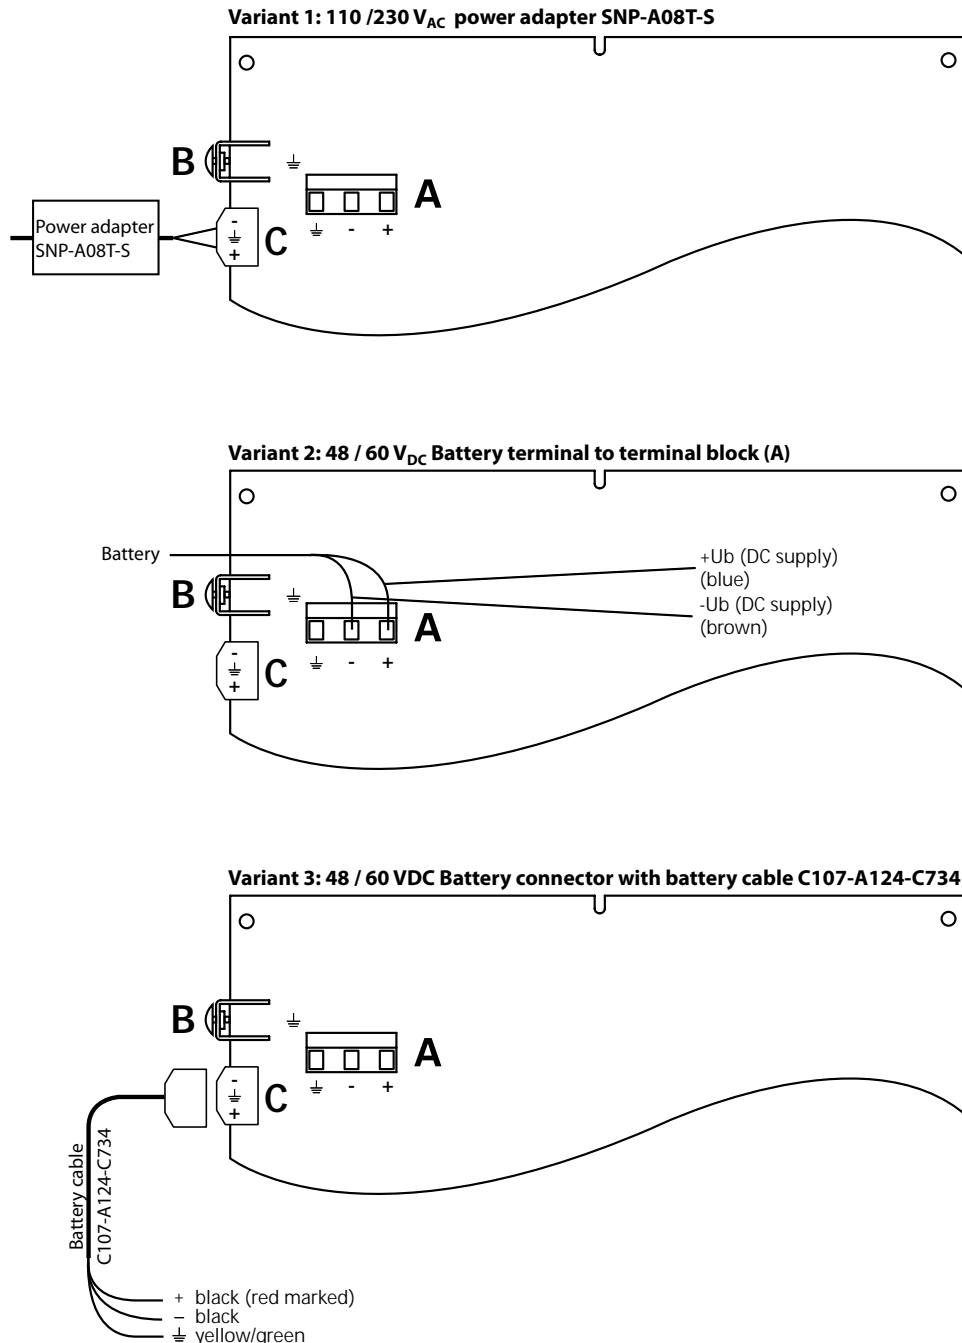

Fig. 2.174 Power supply of the desktop unit with RPS
Fig. 2.174 shows you the desktop unit with RPS. When a local 48/60 VDC power supply is used, connect the desktop device to one of the following power sources:
- using the terminal block (A),
- using the separate grounding terminal (B), or
- at the center terminal of the connector (C) (see Fig. 2.174).